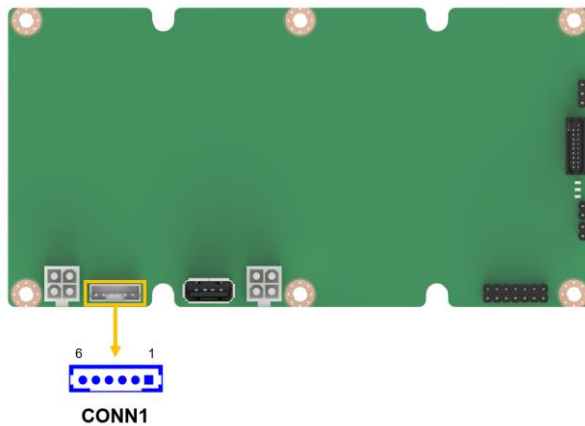

Figure 3-11: Relay Connector Location
- CN Location:** See **Figure 3-11**